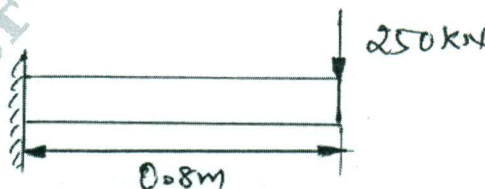

Fig.Q6(a)
- 6 a. A cantilever beam subjected to point load of 250 kN as shown in Fig.Q6(a). Determine the deflection at the free end and the support reactions. Take $E = 200\text{GPa}$, $I = 4 \times 10^6 \text{mm}^4$. (10 Marks)